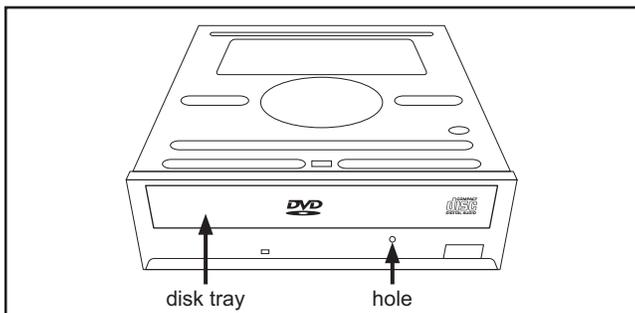

Fig.5-2a
- (3) Pass a thin wire through a hole in the DVD unit.
- (4) The disc tray comes out slightly. Take out the disc tray manually.(See Fig.5-2a)